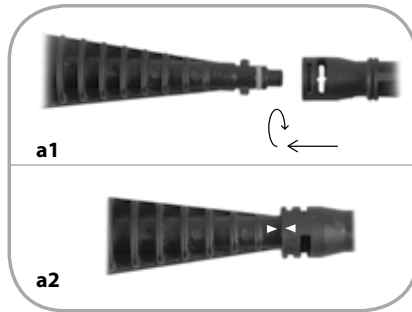

fig.3
- Insert the tools (13, 14, 15, 16, 17, 18) into the adapter (13) in the socket - **fig 3**.